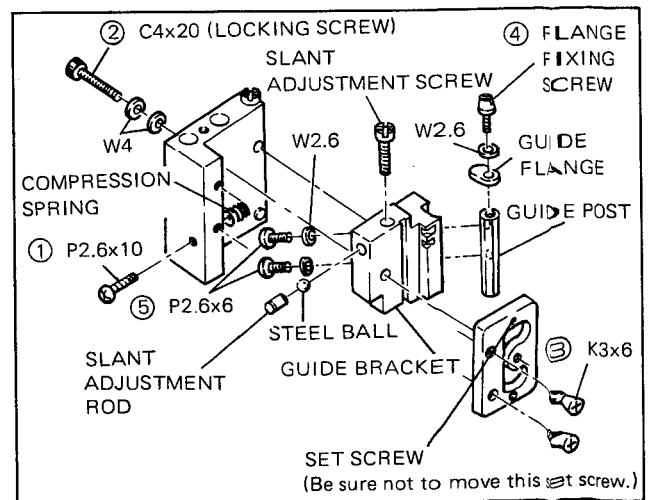

Fig. 6-24. Disassembly of Entrance Slant Guide
- Remove the following parts (see Fig. 6-24).
- Loosen the screw ① and remove the compression spring.
- Remove the screws ② and ③ and take off the guide bracket.
- When replacing the guide post or guide flange, remove the flange fixing screw ④.
- Remove the two screws ⑤ and remove the guide post from the guide bracket.